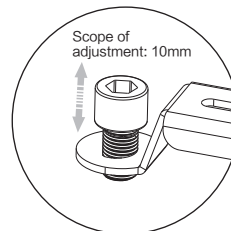

figure 19
4. Rotate the adjustable nuts (4-4) for adjusting the height of instllation arms (4-2) if the installation holes are not at the same level as figure 19.